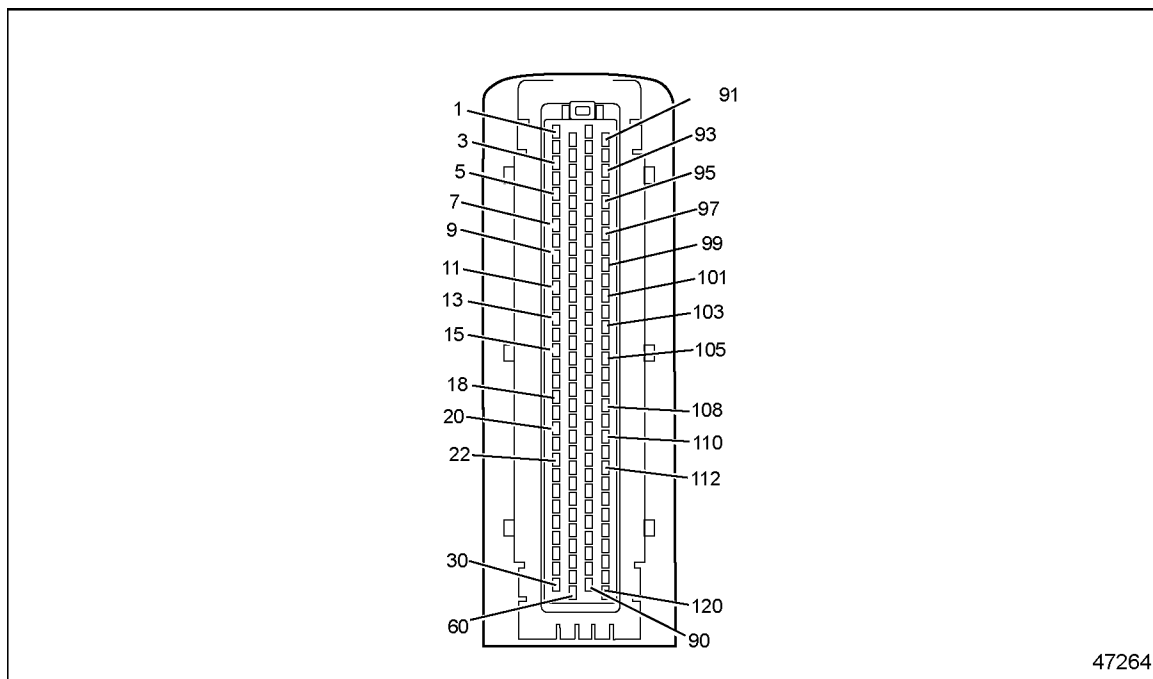

Figure 34-2 MCM 120-pin Connector
- [a] If the voltage is between 2.75 and 3.25 volts, repair the open circuit between pin 1 of the SFT Sensor harness connector and pin 55 of the 120-pin MCM connector. See Figure 34-2. Refer to section 34.1.1.1.
- [b] If the voltage is less than 2.75 volts, repair the open circuit between pin 2 of the SFT Sensor harness connector and pin 77 of the 120-pin MCM connector. See Figure 34-2. Refer to section 34.1.1.1.